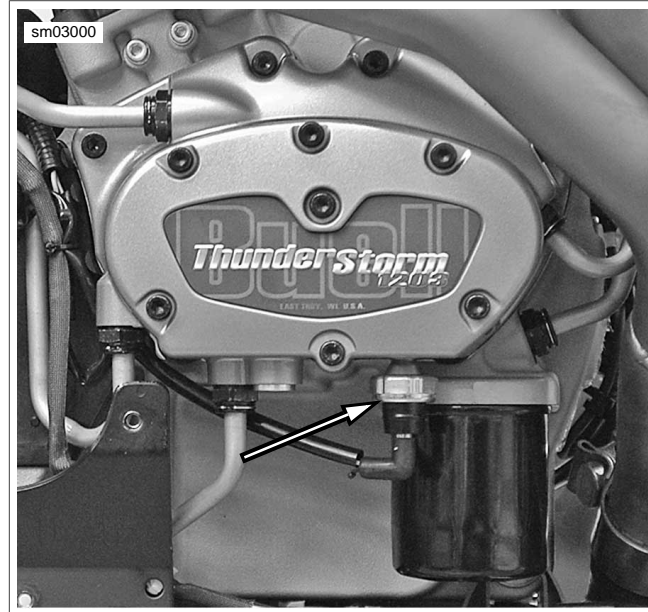

Figure 3-100. Oil Pressure Indicator Switch
1. See Figure 3-100. Unplug connector from oil pressure indicator lamp switch located under the oil pump next to the oil filter mount, unscrew and remove oil pressure switch from crankcase.